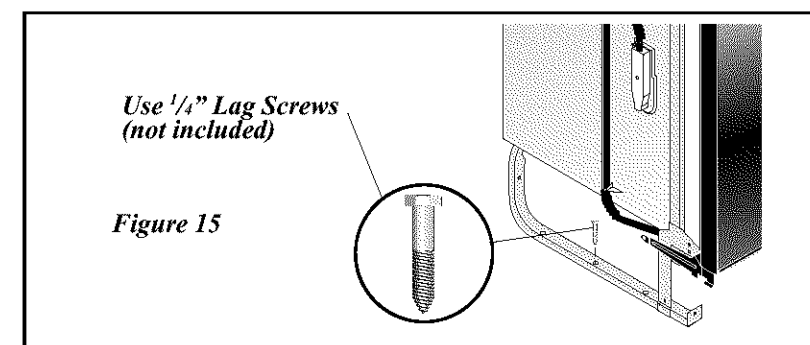

Figure 15
1. Screw 1/4" lag screws, not included, through holes provided in frame rail. See Figure 15.